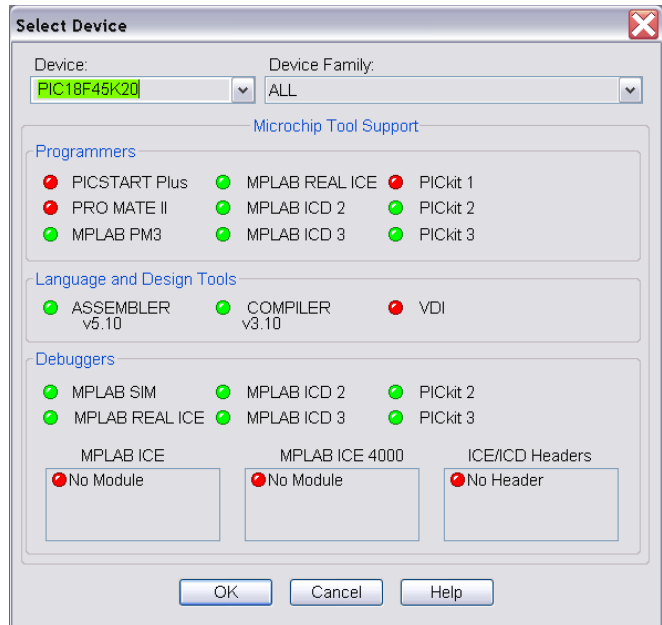

Figure 5: Select Device dialog should look like this.
- Select menu option Configure → Select Device. It should all be fine, but make sure that it looks similar to Figure 5.